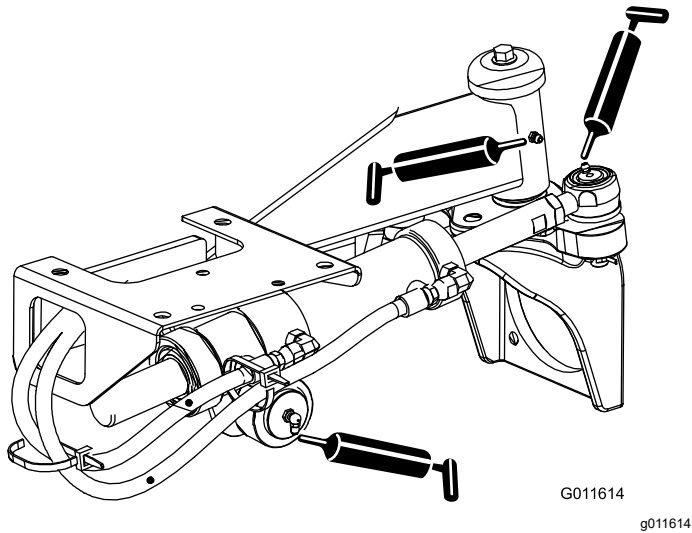

Figure 46
- Steering-cylinder ball joints (2) and rear axle (1)—Figure 46